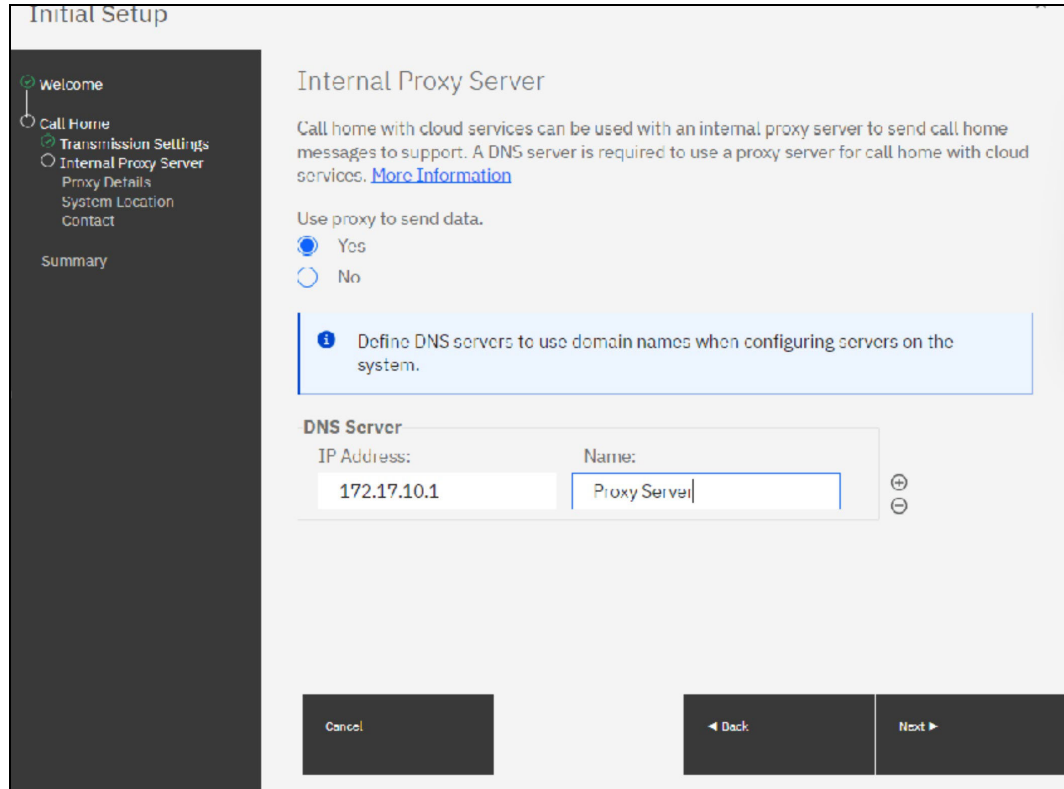

Figure 2-20 Setup Internal Proxy Server
6. Select your choice. In our case we choose **Send using Cloud services**. Click **Apply and Next** to setup the Internal Proxy Server. See Figure 2-20 on page 31. Enter the requested information.